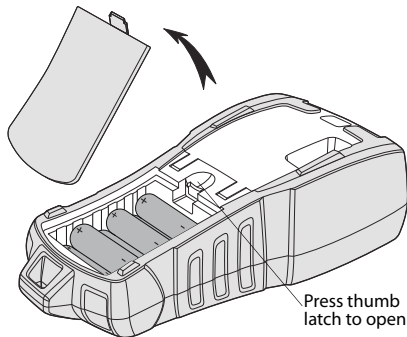

Figure 4
1. Press the thumb latch on the back of the printer to remove the battery compartment cover. See Figure 4.
2. Insert the batteries into the battery compartment. See Figure 4.